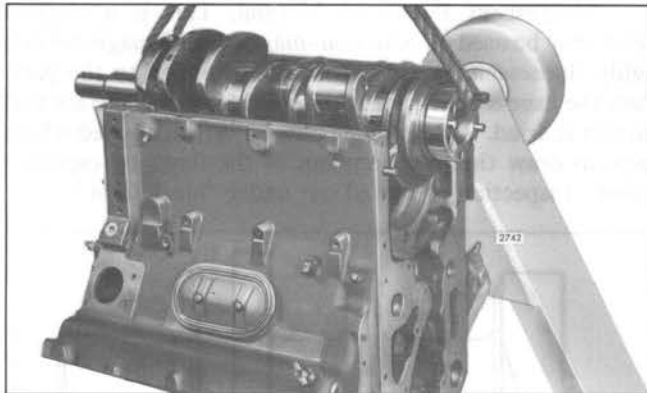

Fig. 4 – Removing or Installing Crankshaft
20. Remove the crankshaft, including the timing gear and oil pump drive gear (Fig. 4).